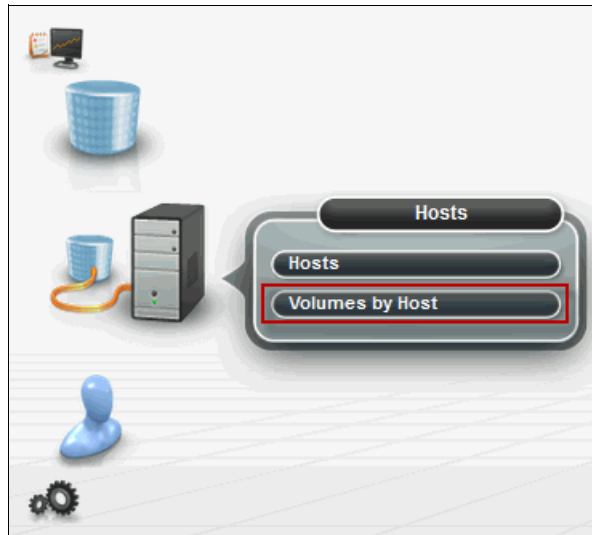

Figure 8-5 Opening the Volumes by Host menu in the IBM FlashSystem 900
2. Select the **Hosts** → **Volumes by Host** (Figure 8-5).